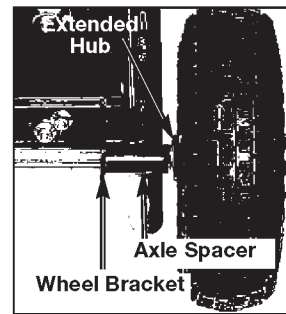

Figure 6
- Tap the axle cap (5) on the end of the axle (16), using a rubber mallet.
- Slide one wheel (15) onto the axle with the extended hub pointed away from axle cap. (See Figure 6)